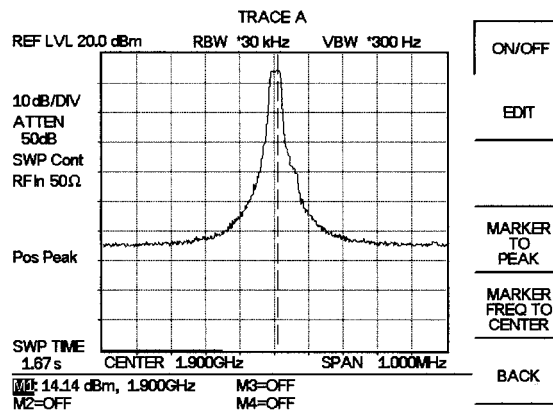

Figure 5-13. Measurement of Two Signals Having Unequal Amplitudes
- Step 7.** Change the resolution bandwidth to 30 kHz. Figure 5-13 shows the results after changing the RBW using a signal combiner/splitter with a loss of 6 dB.